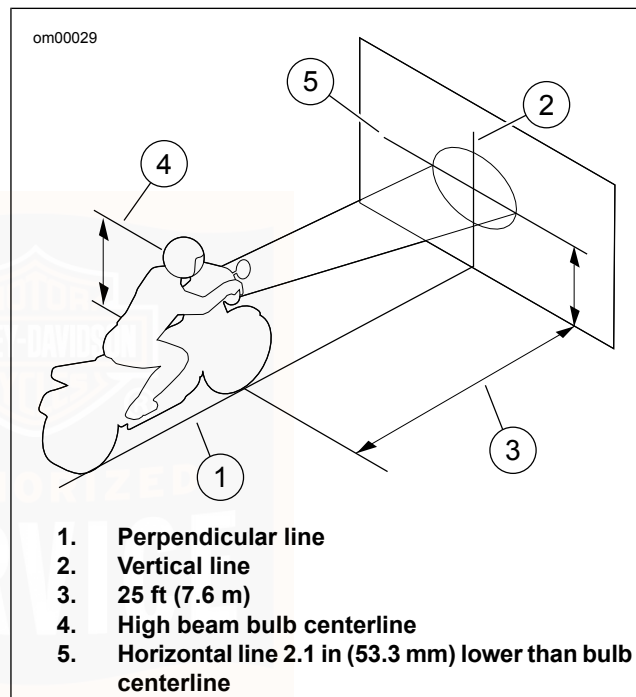

Figure 51. Checking Headlamp Alignment
4. See Figure 51. Park the motorcycle in a line (1) perpendicular to the wall.
6. Draw a vertical line (2) on the wall.
8. Measure the distance (4) from the floor to the center of the high beam bulb.